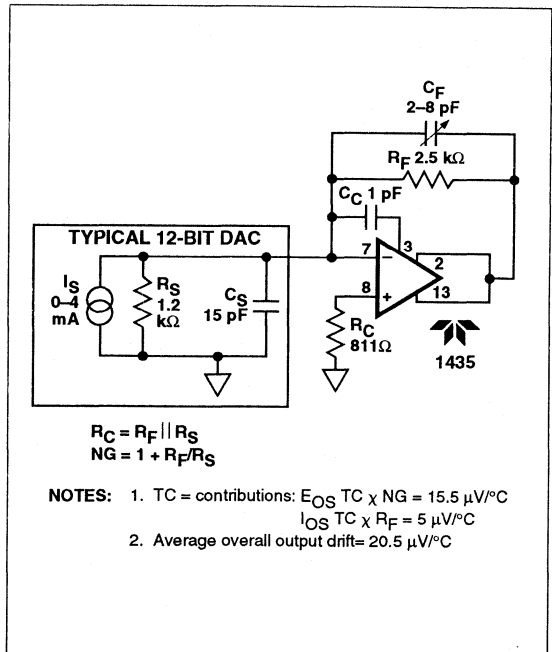

Figure 4. The 1435 as a Fast Current-to-Voltage Converter
The 1435 is an optimum choice for a current-to-voltage converter because of its excellent E_{OS} and I_{OS} temperature coefficients (TC). When used with a current output DAC the required noise gain of ≥ 2 is provided by using the output impedance of the DAC (see Figure 4). The initial input bias current of the 1435 is compensated by the addition of R_C , which is equal to the parallel combination of the feedback resistor and the input (DAC output) impedance. The typical I_{OS} TC of $2 \text{ nA}/^\circ\text{C}$ times the feedback resistor ($2.5 \text{ k}\Omega$) produces $5 \mu\text{V}/^\circ\text{C}$ of output drift over temperature, and the typical E_{OS} TC of $5 \mu\text{V}/^\circ\text{C}$ times a noise gain of 3.1 contributes only $15.5 \mu\text{V}/^\circ\text{C}$ to the output drift.